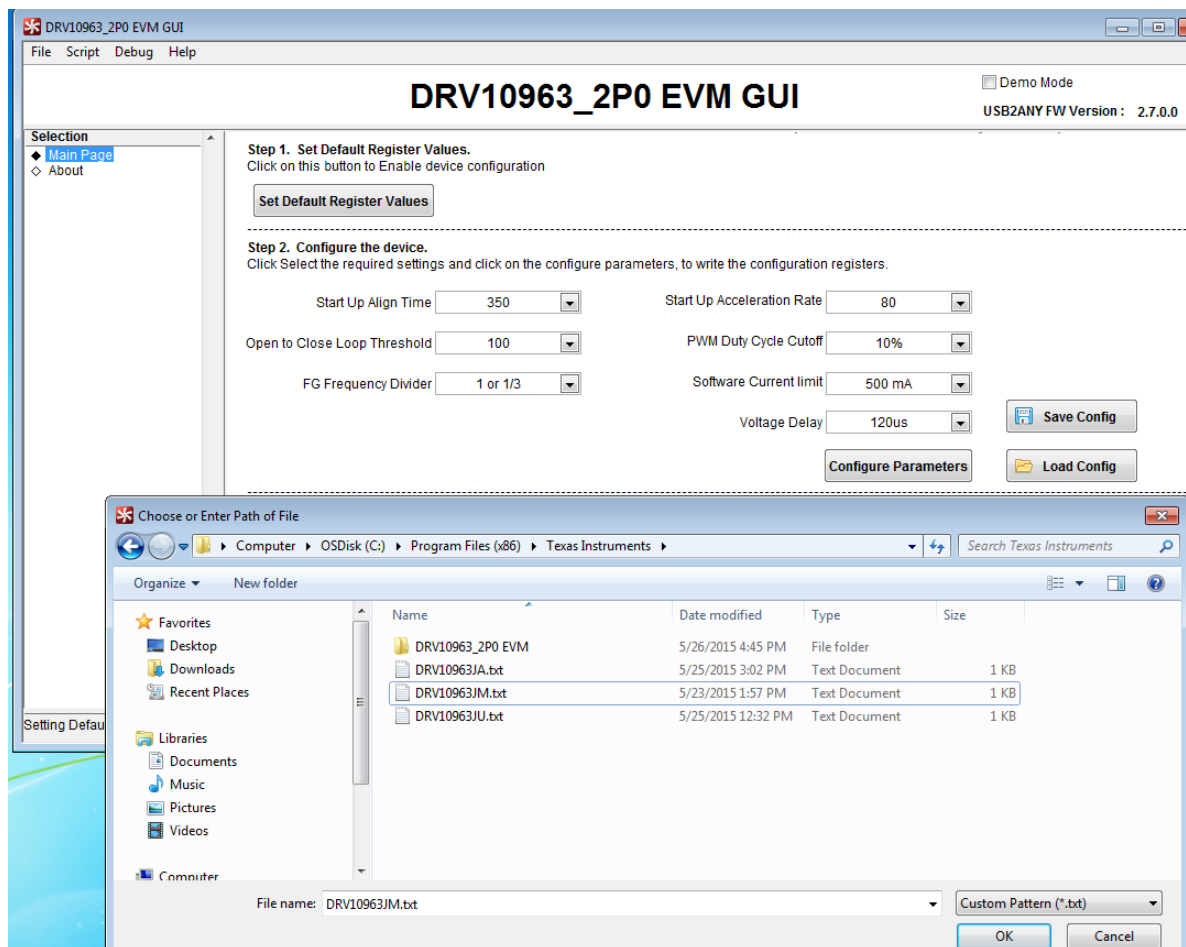
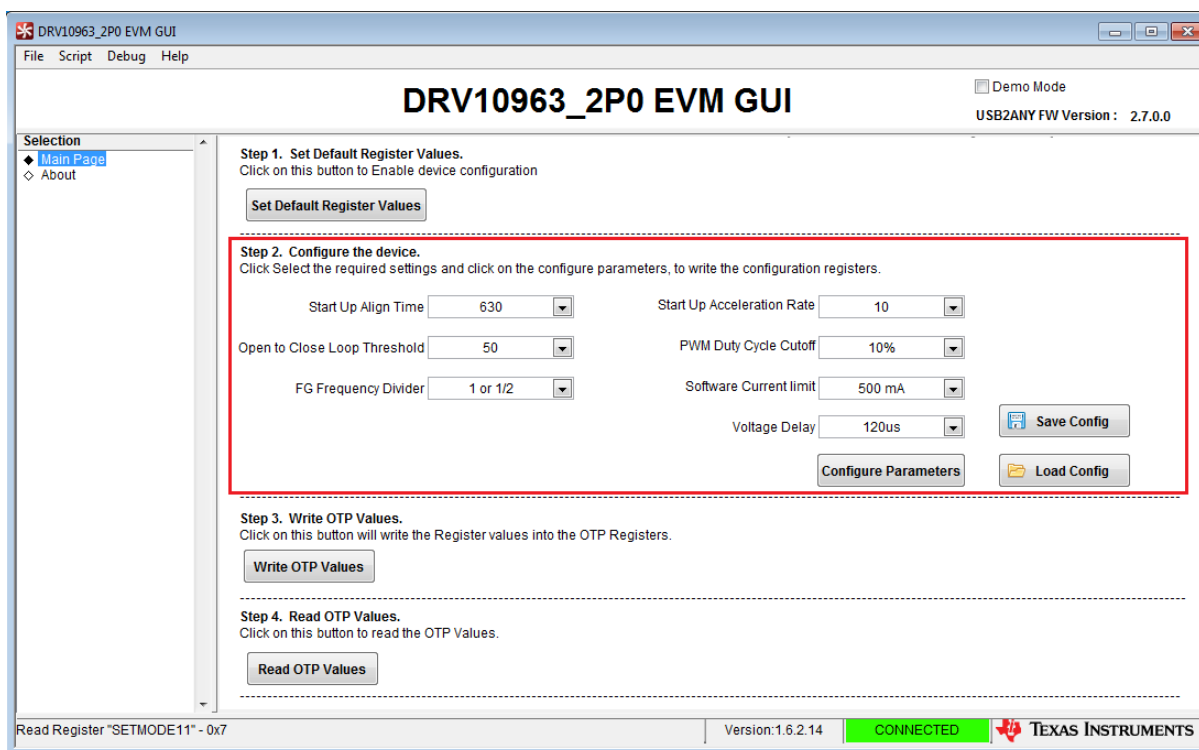

Figure 7. Loading DRV10963JM Configuration Parameter to Device
Figure 8. DRV10963JM Configuration Parameter
6. To test motor performance with the DRV10963JM version, short the jumper J1 back. This will stop the motor. Referring to Figure 7, left-click the "Load Config" button, browse to the GUI installation directory for 3 .txt files in your PC and select DRV10963JM.txt. This will load the register with configuration parameters corresponding to DRV10963JM. Refer to Figure 8 to check configuration parameters corresponding to the DRV10963JM version. In same way, load and configure other versions of DRV10963 to test the performance. To enable motor spin, open the jumper J1 on the motherboard and use POT R-17 for speed control.